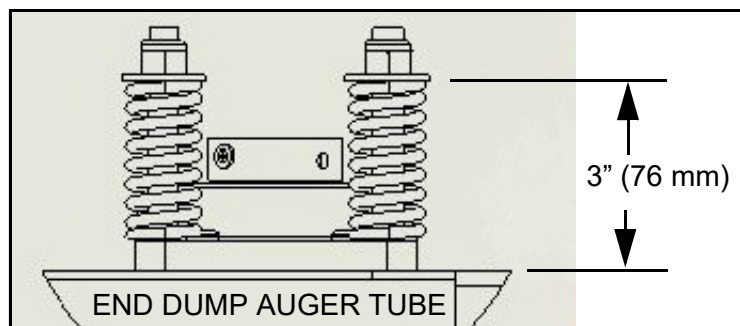

Figure 6.1 End Dump Bearing Spring Dimension
- m. Ensure end dump bearing springs are adjusted to the dimension in Figure 6.1.